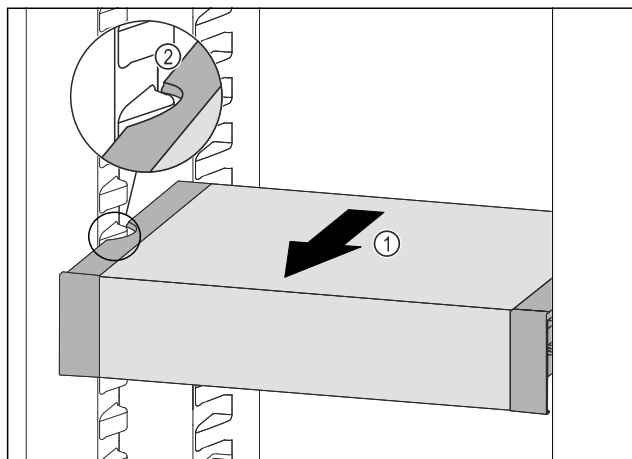

Fig. 184
- Pull VarioSafe forwards Fig. 184 (1) until the recesses in the side of the VarioSafe are at the level of the support rib in the fridge section. Fig. 184 (2)